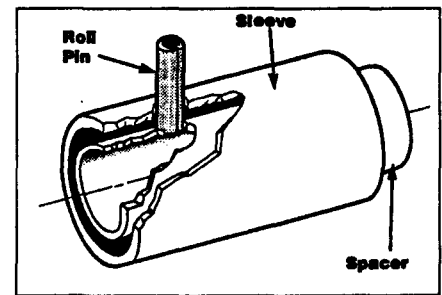

Figure 5-5
NOTE: Roll pins (see Figures 5-5 and 5-5A) secure the three cylinder pins in the cylinder assembly. The roll pins must be driven from the assembly with a 5/32" punch and hammer. The pins will come out in only one direction through the outer sleeves (Figure 5-5).
- Carefully inspect the holes in the sleeve and note that one hole is larger. Use a pliers to hold a new roll pin (never reuse a roll pin) and tap it through the LARGE hole in the sleeve, and into the top hole in the spacer (Figure 5-5). Tap the roll pin into the spacer only until it is flush with the bottom surface of the top hole.